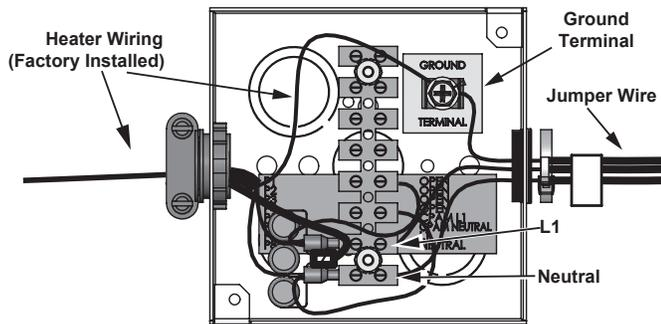
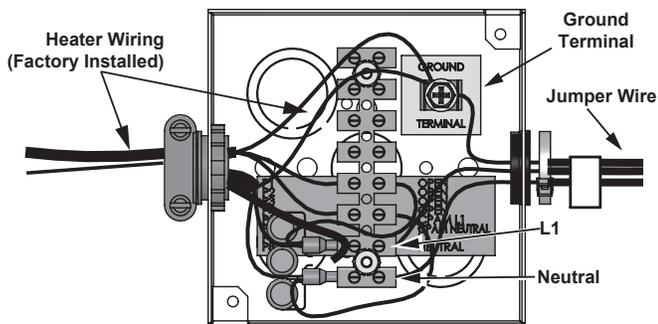

Figure 61. Junction Box (250 Gallon Models)
Figure 62. Junction Box (220 Gallon Models)
The 120-VAC hot wire from the power supply must connect to the black jumper wire or the "L1" terminal block location in the junction box and the 120-VAC neutral wire must connect to the white jumper wire or the "Neutral" terminal block location in the junction box for correct polarity. See **Figure 61** and **Figure 62**.
3. Connect the 120-VAC hot wire from the power supply to the black jumper wire or the terminal block location marked "L1" inside of the junction box located on top of the water heater. If the black jumper wire is used, make the connection inside of the junction box with a properly-sized wire nut. Wrap electrical tape around the wire nut and wire end. See junction box **Figure 61** and **Figure 62** and the wiring diagram **Wiring Diagrams** (page 100).
- Connect the 120-VAC neutral wire from the power supply to the white jumper wire or the terminal block location marked "Neutral" inside of the junction box located on top of the water heater. If the white jumper wire is used, make the connection inside of the junction box with a properly sized wire nut and wrap electrical tape around the wire nut and wire end. See junction box *Figure 61* and *Figure 62* and the wiring diagram *Wiring Diagrams* (page 100)
- Connect the ground wire from the power supply to the grounding lug inside the junction box. See junction box *Figure 61* and *Figure 62* and the wiring diagram *Wiring Diagrams* (page 100).
4. Wait five (5) minutes for any residual gas to clear.
5. Connect the manometer to the supply gas pressure port on the gas valve. See **Figure 62** (page 53).